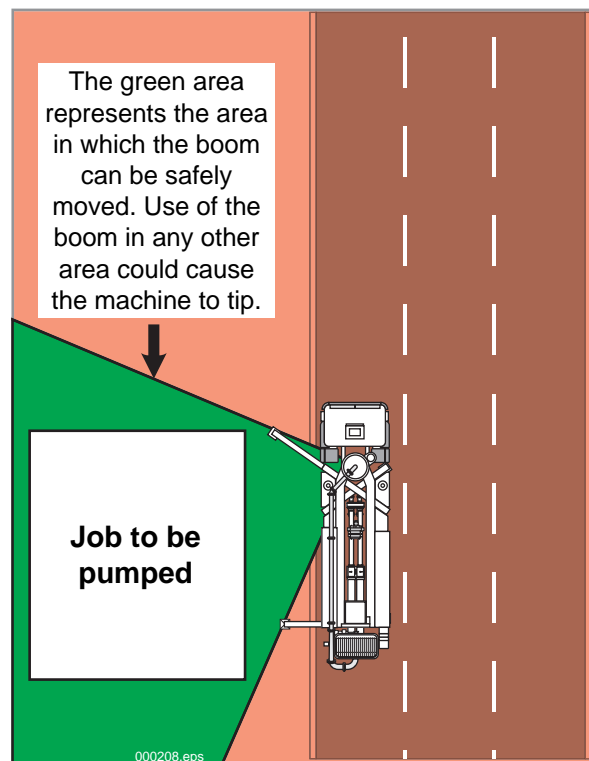

Figure 1
“Shortrigging” describes the act of not extending the outriggers on the side away from the pour (Figure 1). Shortrigging is not recommended, but under certain conditions it may be required, and can be done safely if proper procedures are followed. If it is not possible to extend the outriggers on the side **away from the pour**, the unit can be set-up with the outriggers jacked down but not extended.
3. Fully extend and jack the outriggers on the side of the pour (Figure 1). Use proper cribbing for the soil conditions.
6. At no point during the pour should the boom be moved outside the area between the center lines of the fully extended outriggers (Figure 1).